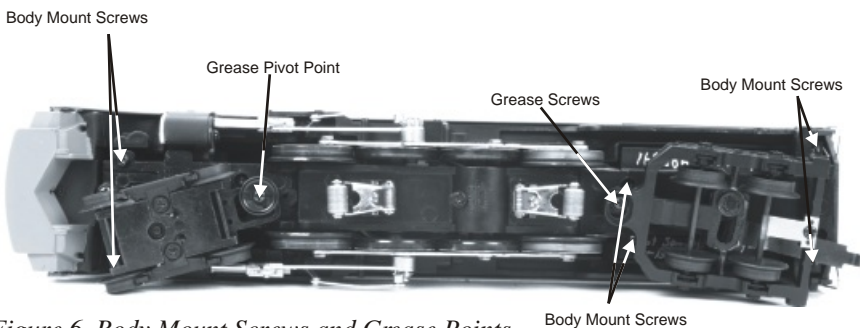
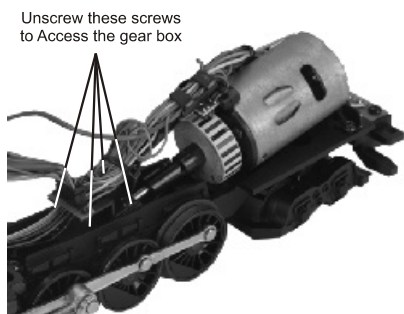

Figure 6. Body Mount Screws and Grease Points
Figure 7. Motor Gearing Grease Plate Screws
2. Remove the boiler by removing the body mounting screws shown in Fig 6
3. Remove the Phillips screw (marked “GREASE”) located at each set of wheels (Fig. 6) and the gearbox cover screws (Fig 7).
You should also grease the leading and trailing locomotive truck tongues to enhance their ability to slide on the chassis. Follow the grease points shown on Fig. 6.
1. To replace the headlight in this model you will need to follow the disassembly instructions for greasing the engine in figure 6 on pg. 13. Once the boiler has been removed you can access the headlight(see figure 8).
If you experience poor or no smoke output when the smoke unit is on and has fluid, check the wick to see if it has become hard, blackened, and unabsorbent around the heating element. To remove the smoke unit you will first have to remove the boiler shell (by removing the body mounting screws shown in Fig 6 on pg. 13). To do this, follow these instructions: